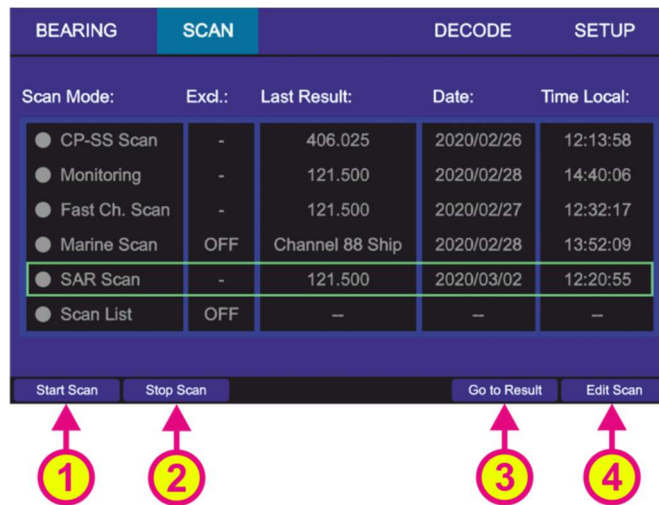

Figure 55. Selecting SAR scan
- To start the “SAR scan” mode select the corresponding line on the “Scan” page and press “OK” or the hotkey “Start Scan” (s. Figure 55, position 1).
- Pressing the hotkey “Stop Scan” (s. Figure 55, position 2) will terminate the current scan mode and change to the bearing of the frequency, that was set before the scan mode has been activated.
- Pressing the hotkey “Go to Result” (s. Figure 55, position 3) during the scan mode is currently running, will terminate the scan mode, adopt the frequency which was found in this scan last time and change to the “Bearing” page. Pressing the hotkey “Go to Result” if the scan mode is not activated, will lead to the “Bearing” page adopting the last result as the bearing frequency. This hotkey appears only, if there is a result for this scan.
- Pressing the hotkey “Edit Scan” (s. Figure 55, position 4) opens the dialog for changing the SAR scan settings (s. Figure 57).